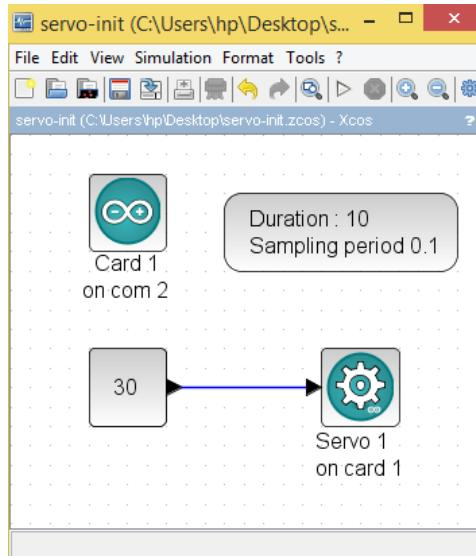

Figure 9.4: Rotating the servomotor by a fixed angle. This is what one sees when `O`
1. First we will rotate the servomotor by 30° . When the file required for this experiment is invoked, one gets the GUI as in Fig. 9.4. In the caption of this figure, one can see where to locate the file.